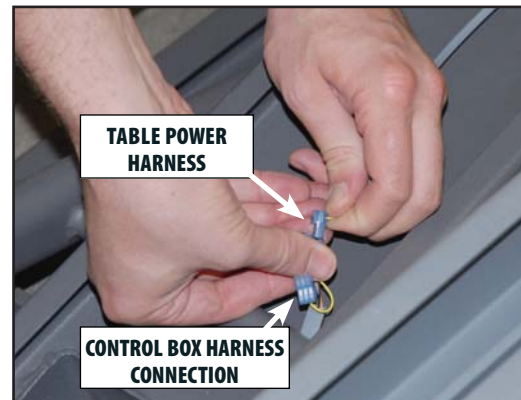

FIGURE 6.37
3. Disconnect the Control Box Harness Connector from the Table Power Harness by lifting the tab on the Connector and pulling apart. Refer to **Figure 6.37**.
NOTE: If the table has Postural Drain, disconnect the Limit Switch Harness from the Control Box Harness by lifting the tab on the Connector and pulling apart. Refer to **Figure 6.37**.